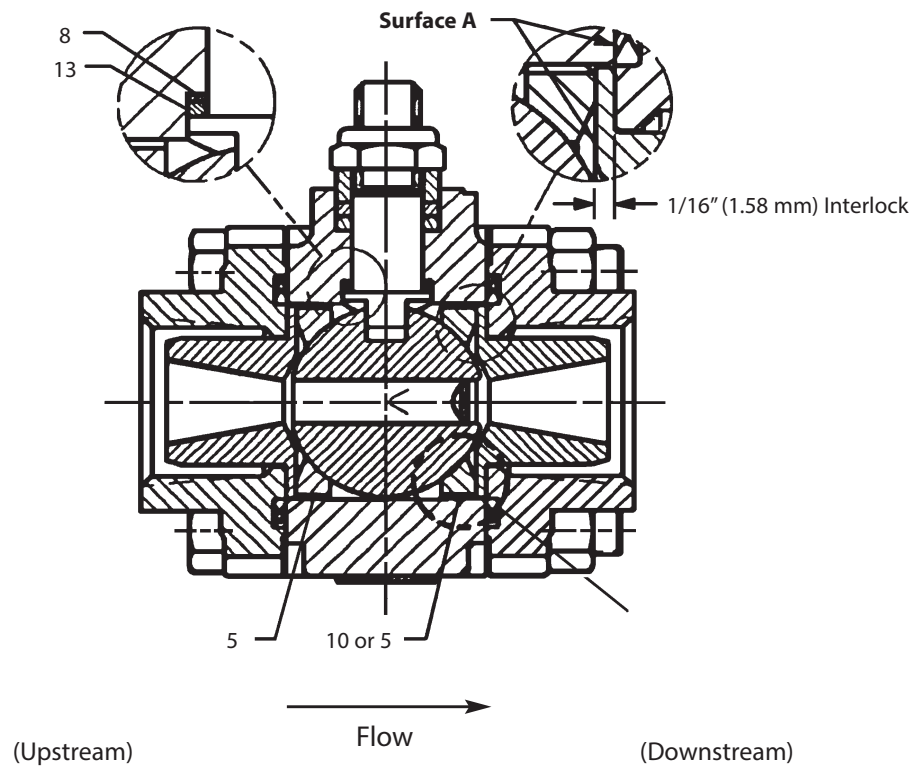

Figure 5
4. For positive alignment and ease of in-line assembly, each end cap is piloted by the diffusers approximately 1/16" (1.58 mm) into the body as shown in (Figure 5). To overcome this feature during in-line disassembly it is necessary to separate each cap at least 1/16" (1.58 mm) from the body. Sharply rap body and caps with a block of wood or plastic mallet to break loose body seal. Spread end caps and swing the body out of the line. If pipe does not allow simple spreading, remove the remaining body bolt and rotate center section (See Figure 3). This will improve access to the end cap flange for ease of spreading. Swing the valve body (1) out from between the end caps (2). Be careful not to damage the sealing surfaces "A" (See Figure 5) at each end of the valve.
5. Turn the stem (4) so that the valve is fully closed. Remove body seals (6) and seats (5). Body seals may be tightly compressed in their grooves. Use extreme care when prying them out. Damage, such as scratches to the bottom of the groove, will cause leaks. If the seats are not easily removed, gently tap the ball (3) with a piece of wood or other soft material.
6. Remove the ball (3).
7. Remove the stem nut (16) and the compression ring (21).
8. Press the stem (4) from the top into the valve body (1) and remove it through the end of the body.
9. Carefully pry out and discard the old stem seals (8), the stem bearings (13) and (24), being careful not to damage the bearing surfaces.
10. Remove diffusers (32) if necessary, by tapping them out of the end caps (2) with a piece of wood, then discard old diffuser if damaged.
7. Work at either end of body (1). You must pay attention to the flow arrows only if you have a RM coded valve, then place the seat (5) upstream and seat (10) downstream (See Figure 5). Place a seat (5) into the body. Fit it snugly against the closed ball.
8. **NOTE:** The sealing surface of the seat is toward the ball (See Figure 5).
9. Place a body seal (6) into the machined sealing groove of the end cap (2) (**See Figure 5**). Be certain the groove and seal are clean.
14. Lubricate the body bolts (52) and fasten the valve together with the bolts (52) and the nuts (53). Tighten these bolts evenly and alternately. (**See Table 2 for the torques.**)